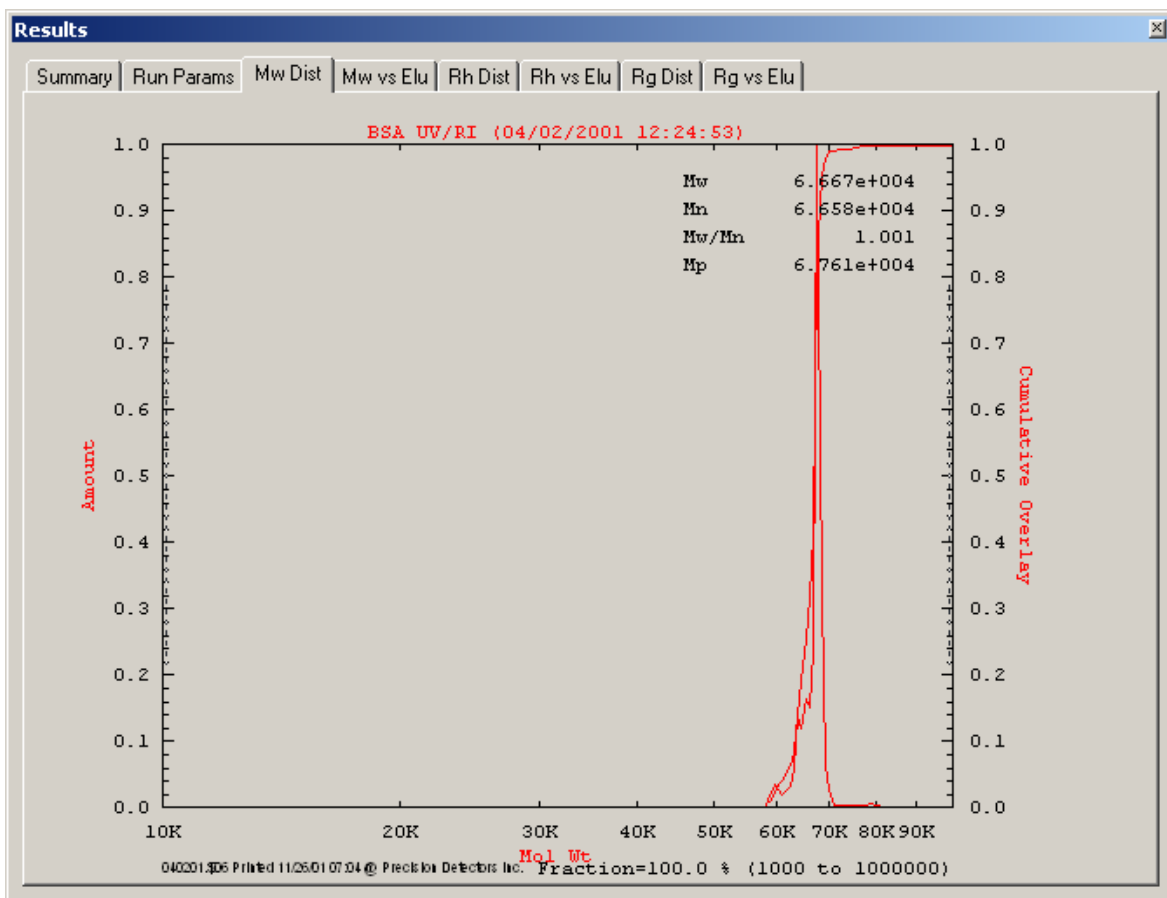

Figure 6-19 Molecular Weight Distribution Plot
d) Click the *Mw Dist* tab to present a molecular weight distribution (Figure 6-19).